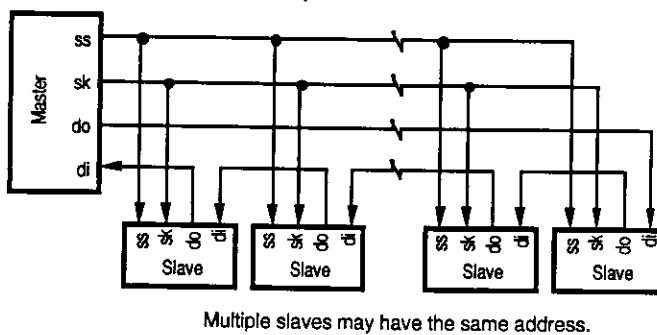

Figure 19. SPI System Configuration (Z86C06 Only)
SPI Operation (Z86C06 only). The SPI is used in one of two modes: either as system slave, or as system master. Several of the possible system configurations are shown in Figure 19. In the slave mode, data transfer starts when the slave select (SS) pin goes active. Data is transferred into the slave's SPI Shift Register through the DI pin, which has the same address as the RxBUF Register. After a byte of data has been received by the SPI Shift Register, a Receive Character Available (RCA/IRQ3) flag and interrupt is generated. The next byte of data will be received at this time. The RxBUF Register must be cleared, or a Receive Character Overrun (RxCharOverrun) flag will be set in the SCON Register, and the data in the RxBUF Register will be overwritten. When the communication between the master and slave is complete, the SS goes inactive.